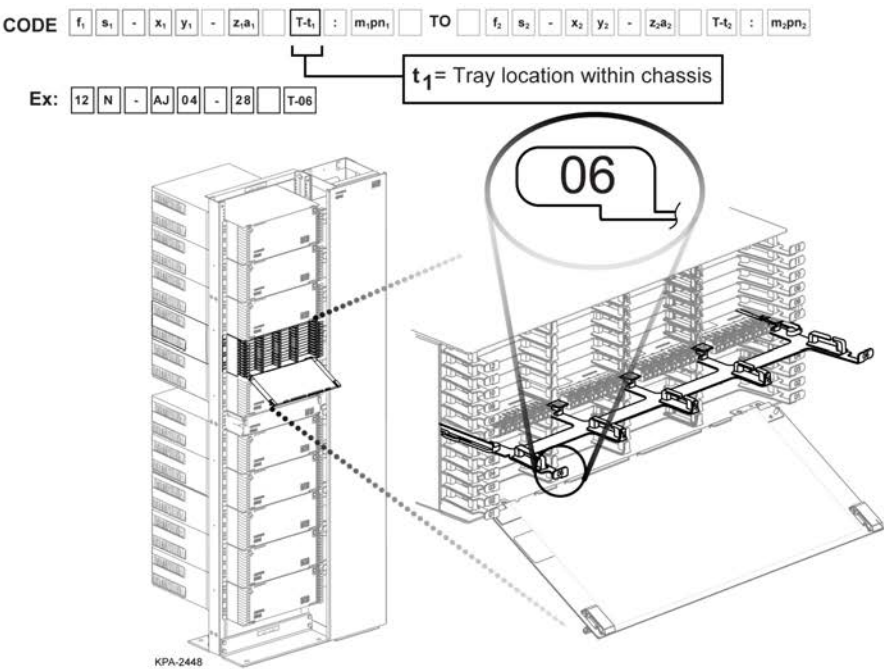

Figure 28 — Tray Label Location
Step 3: Tray Location (Figure 28))